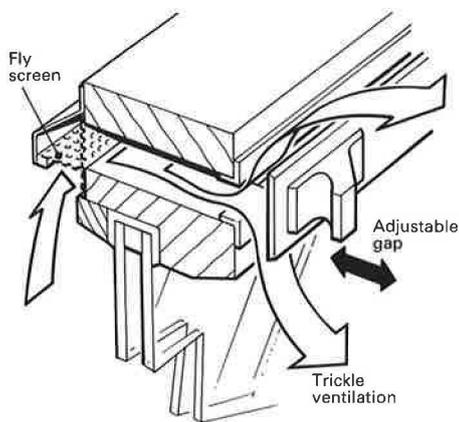

Figure 2 Example of an adjustable slot ventilator fitted into window head
- fine control of part of the above ventilation provision, or provision of additional controlled ventilation to give up to 4000 mm2 free area of trickle ventilation in each room or space is normally adequate for achieving control of the air-borne contaminants and moisture without introducing unacceptable draughts, Figure 2;